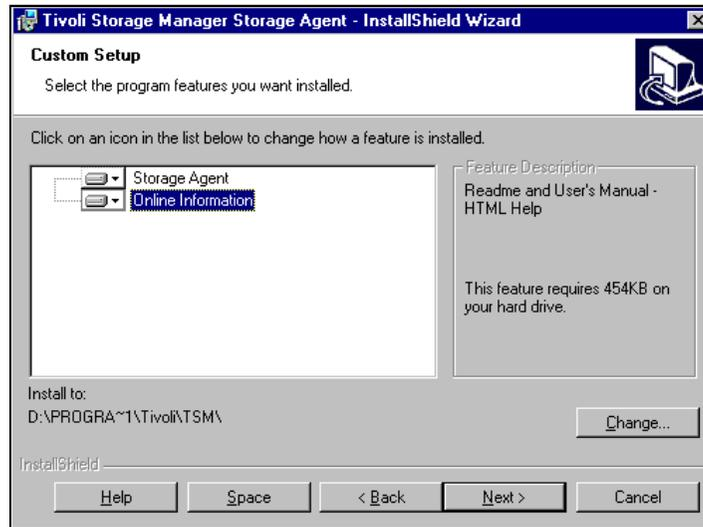

Figure 51. Installing the Storage Agent, selecting components
3. Select the components you want to install (Figure 51).